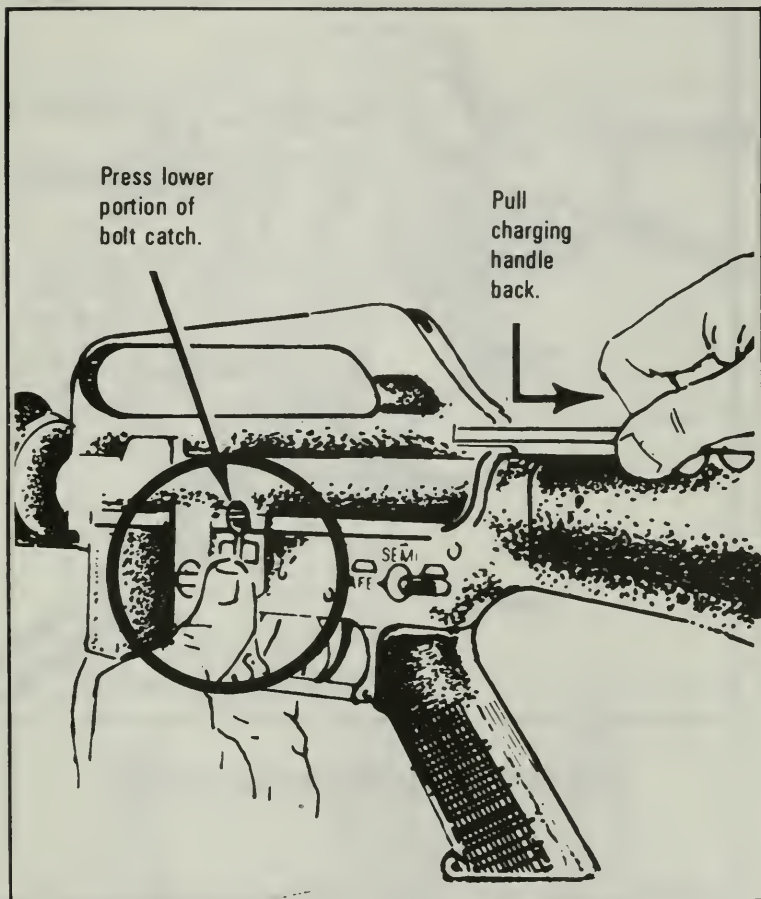

Figure 50. Locking the bolt open.
b. To lock the bolt open, pull the charging handle rearward, press the bottom of the bolt catch, and allow the bolt to move forward until it engages the bolt catch. Return your charging handle to the forward position. (If you have not already done so, move the selector to safe.) (Figure 50)